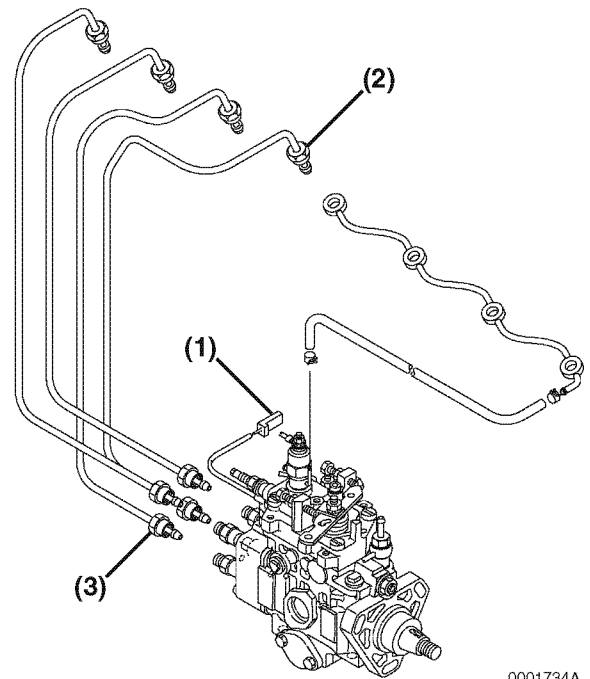

Figure 7-64
- Tighten the high pressure fuel line nuts (**Figure 7-64, (1)**) on the fuel injectors.
- Tighten the high pressure fuel line nuts (**Figure 7-64, (2)**) on the fuel injection pump.